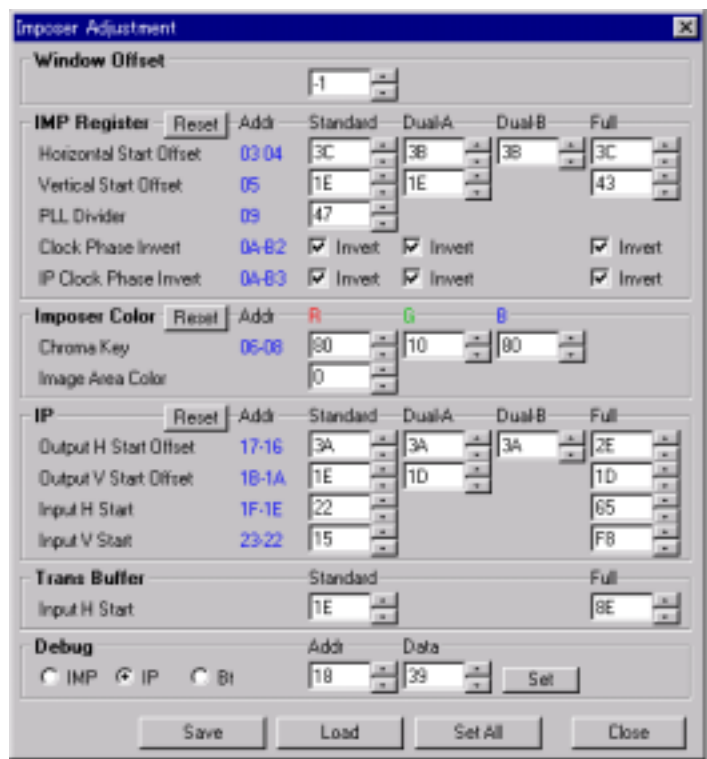

Figure 9-2: Imposer Adjustment Screen
2. Rotate the reference voltage adjustment VR2 for the chroma key comparator in the image display area. A SEM image appears in the image display area. Turning the VR2 right and left causes a noise to appear. Set the VR at an intermediate value. If a SEM image fails to appear, open the Adjustment window for the Superimposer, and provisionally set the chroma key to R = 80, G = 10, B = 80 (**Figure 9-2**).